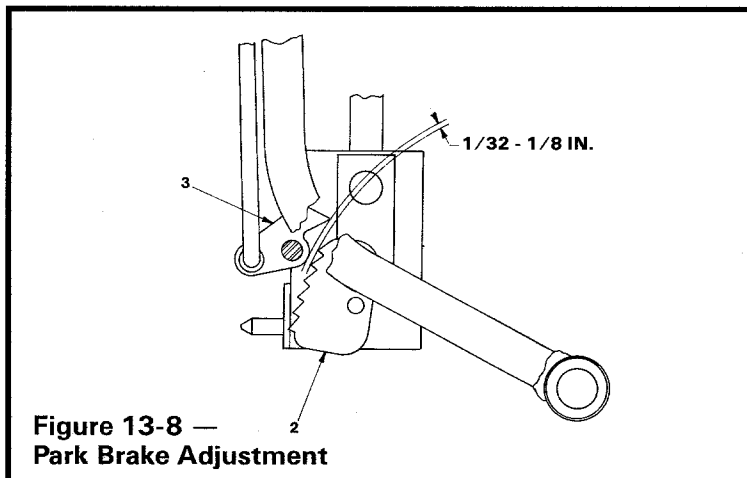
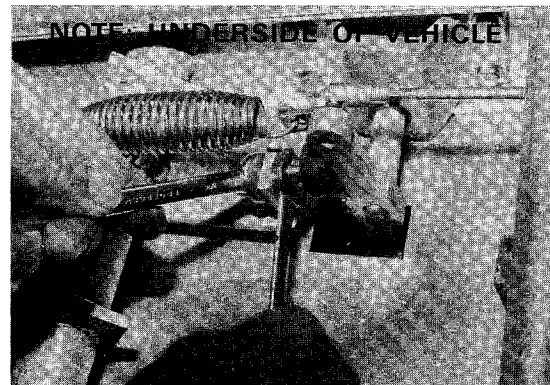

Figure 13-8 —
Figure 13-9
4. Adjust accelerator stop to maintain 1/32 in. - 1/8 in. gap between brake latch (2) and brake pawl (3) (Figure 13-8 and Figure 13-9).